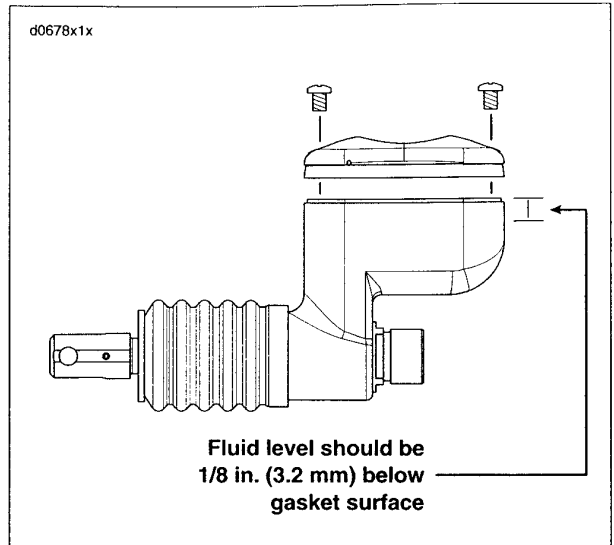

Figure 1-10. Rear Brake Master Cylinder Reservoir
1. See Figure 1-10. Check level in rear brake master cylinder reservoir. Level should be 1/8 in. (3.2 mm) below gasket surface.